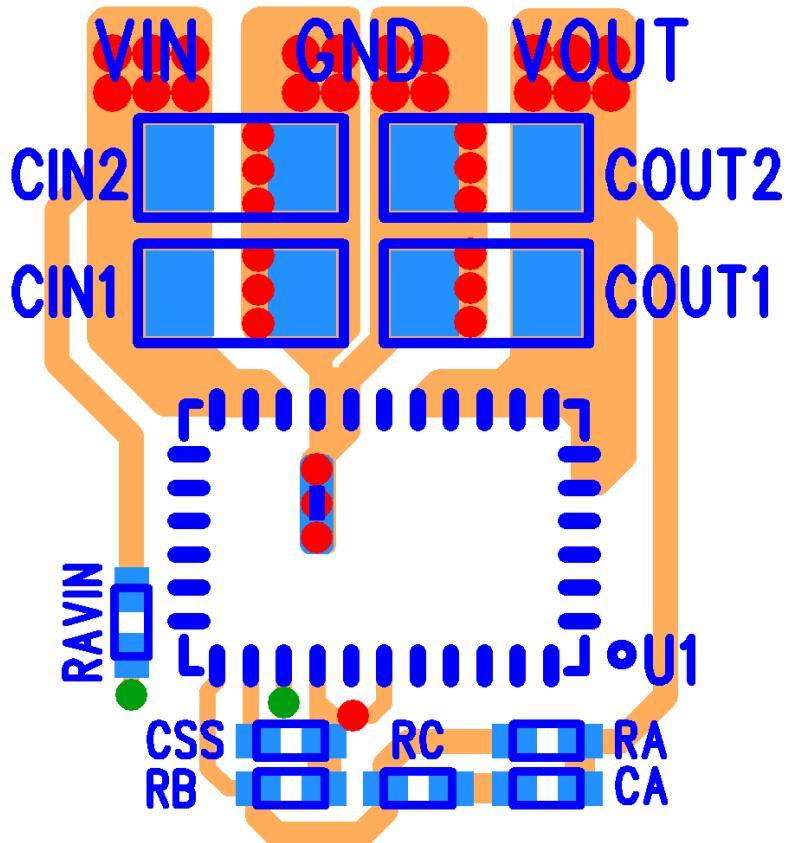

Figure 9: Top PCB Layer Critical Components and Copper for Minimum Footprint (Top View)
Figure 9 shows critical components and layer 1 traces of a recommended minimum footprint EN6340QI layout. ENABLE and other small signal pins need to be connected and routed according to specific customer application. Visit the Enpirion Power Solutions website at [www.altera.com/powersoc](http://www.altera.com/powersoc) for more information regarding layout. Please refer to this Figure 9 while reading the layout recommendations in this section.
**Recommendation 2:** Half of the PGND pins are dedicated to the input circuit and the other half to the output circuit. The slit shown in Figure 9 separating the input and output GND circuits helps minimize noise coupling between the converter input and output switching loops.
**Recommendation 4:** The large thermal pad underneath the device must be connected to the system ground plane through as many vias as possible. The drill diameter of the vias should be 0.33mm, and the vias must have at least 1-oz. copper plating on the inside wall, making the finished hole size around 0.2mm to 0.26mm. Do not use thermal reliefs or spokes to connect the vias to the ground plane. This connection provides the path for heat dissipation from the converter. Please see Figure 9.
**Recommendation 5:** Multiple small vias (the same size as the thermal vias discussed in recommendation 4) should be used to connect ground terminal of the input capacitor and output capacitors to the system ground plane. Put the vias under the capacitors along the edge of the GND copper closest to the Voltage copper. Please see Figure 9. These vias connect the input/output filter capacitors to the GND plane, and help reduce parasitic inductances in the input and output current loops. If the vias cannot be placed under  $C_{IN}$  and  $C_{OUT}$ , then put them just outside the capacitors along the GND slit separating the two components. Do not use thermal reliefs or spokes to connect these vias to the ground plane.
**Recommendation 6:** AVIN is the power supply for the internal small-signal control circuits. It should be connected to the input voltage at a quiet point. In Figure 9 this connection is made at the input capacitor furthest from the PVIN pin and on the input source side. Avoid connecting AVIN near the PVIN pin even though it is the same node as the input ripple is higher there.
**Recommendation 8:** Keep  $R_A$ ,  $C_A$ ,  $R_C$  and  $R_B$  close to the VFB pin (see Figure 9). The VFB pin is a high-impedance, sensitive node. Keep the trace to this pin as short as possible. Whenever possible, connect  $R_B$  directly to the AGND pin instead of going through the GND plane. The AGND should connect to the PGND at a single point from the AGND pin to the PGND plane on the 2nd layer.
**Recommendation 9:** The layer 1 metal under the device must not be more than shown in Figure 9. See the following section regarding Exposed Metal on Bottom of Package. As with any switch-mode DC-DC converter, try not to run sensitive signal or control lines underneath the converter package on other layers.